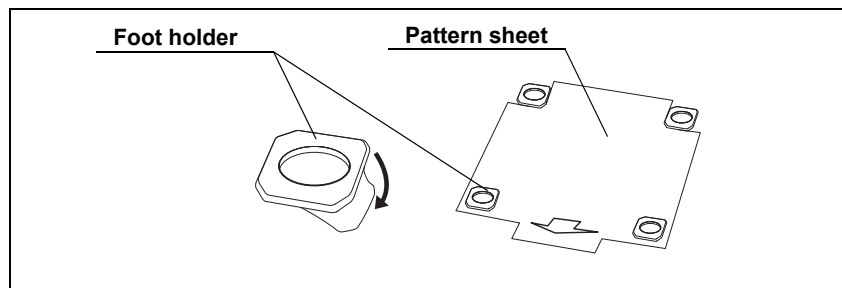

Figure 8.3
4. Peel the paper from the back of the foot holders and attach them firmly at the right position on the light source using the pattern sheet (see Figure 8.3).